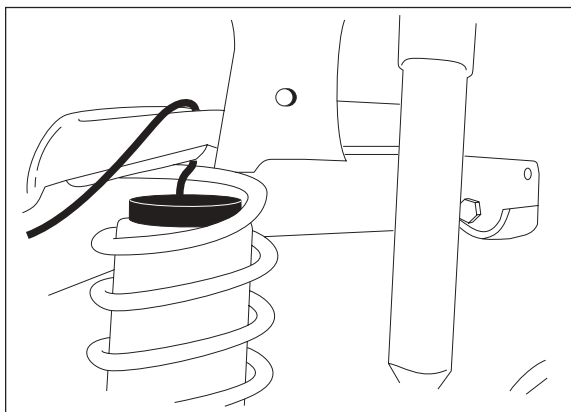

Figure 2
7. Push the cylinder to the bottom of the coil and insert the protector on top of the cylinder (Figure 2),